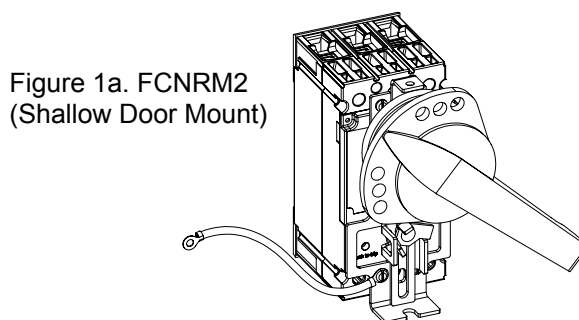

Figure 1a. FCNRM2
These instructions describe the installation procedure for the Rotary Handle THCH45 operator accessory on **Record Plus™** circuit breakers, as shown in Figures 1a & 1b.
- FCNRM2 provides the necessary parts for direct mounting of the handle on the breaker mechanism through the enclosure door, with a box depth of 5.0 inches (127 mm), as shown in Figure 1a. Maintain the dimension “H” [4.69 inches (119.18)] as shown in Figure 9.